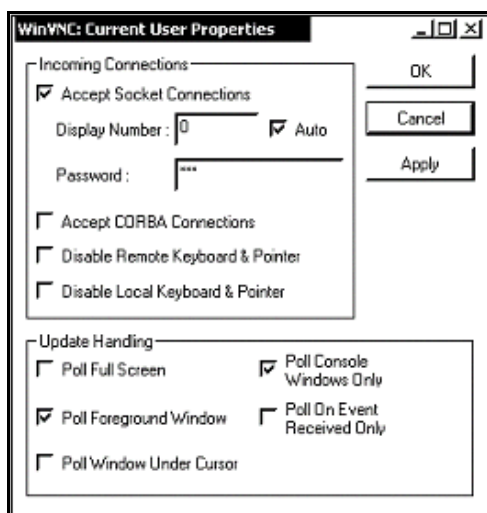

Figure 6-13: Configuring the VNC Services
1. Click the Accept Socket Connections check box (Figure 6-13).